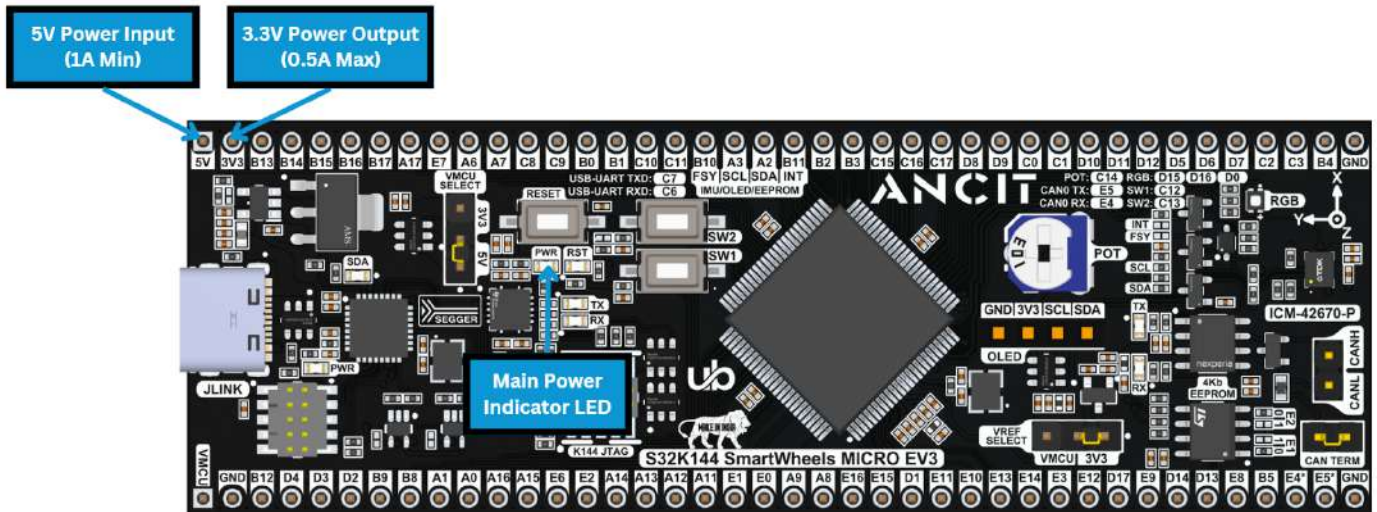

Fig 3 : Powering through 5V Power Pin
- The “PWR” LED is mentioned in Fig 3. indicates that power is being received by the SmartWheels EV3.